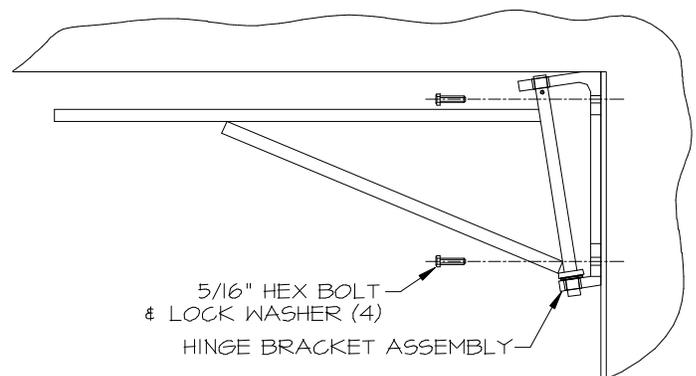

FIG. 2
- a. **Center jamb mounting** (180° door swing) (Figure 2) .